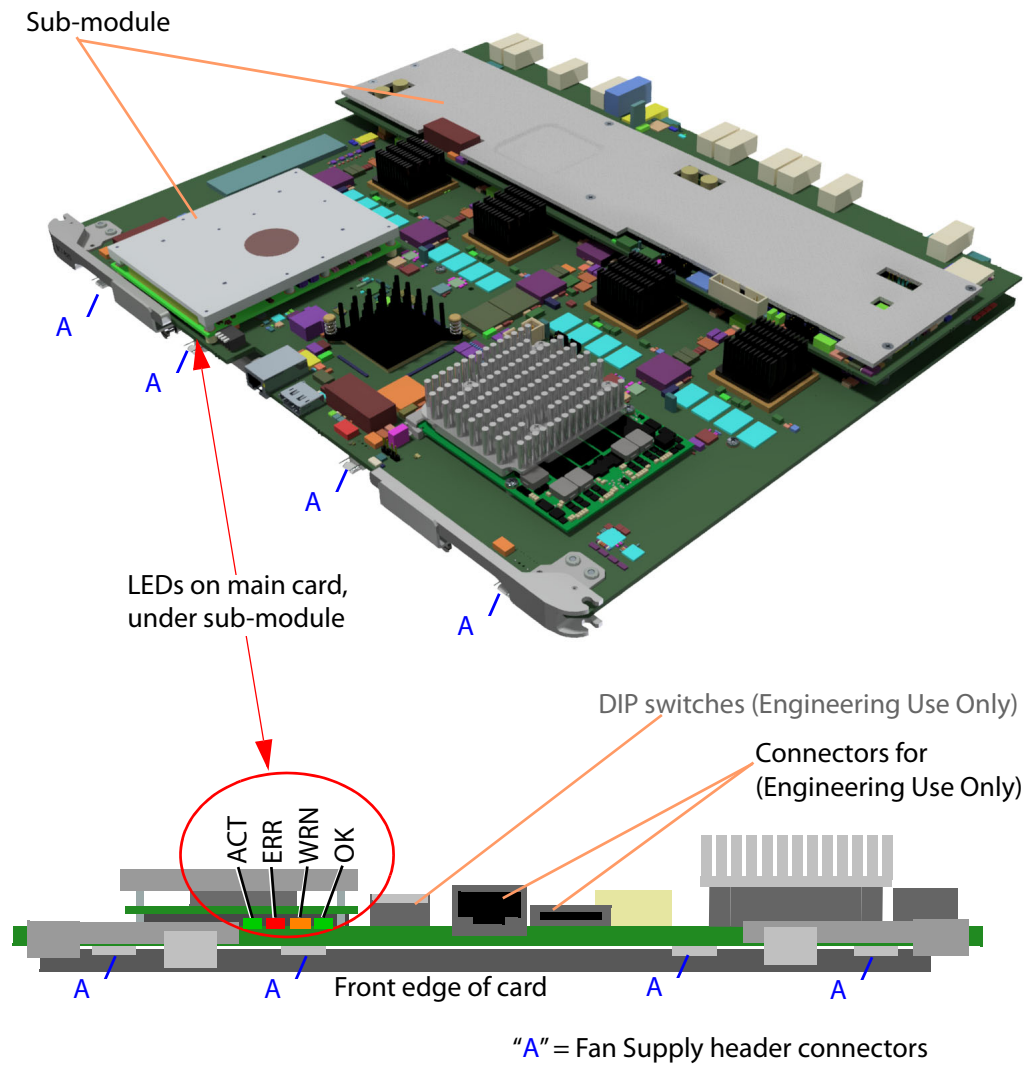

Fig. 2-6: Front Main Card - Status Indicating LEDs and Fan Supply Headers
LED status indicators are on the front edge of the front main card within the MV-825-RTR chassis and are viewed by opening the front door. Figure 2-6 shows the front edge of the card and Table 2-1 lists the LED color codes for the MV-825-RTR main card.
Along the underside of the card are four header connectors. These supply power for the front door fans. See Figure 2-6. The front door's fan supply wires connect to the four small headers on the underside of the front of the card.
- **Engineering connectors** - There are two other connectors on the front edge of the card, see Figure 2-6. These are for Engineering use only and should not be used.